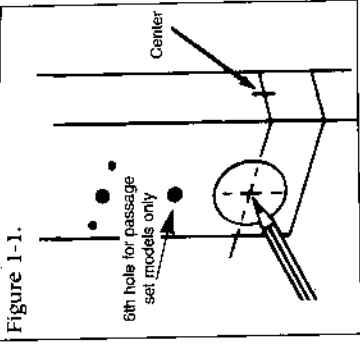

Figure 1-1.
- 3 • Mark the door as indicated on the template. Models without passage feature require 5 holes (template A); models with passage feature require 6 holes (template B). See Figure 1-1.